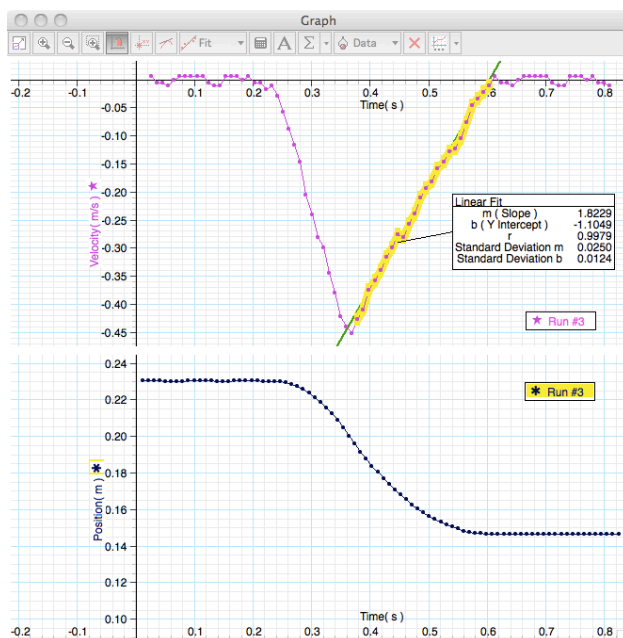

Figure 2: Example data.
3. It may take a few tries to get a good set of data. An example of a good run of data is shown below in Figure 2. Try to keep your data as close to this as possible, avoiding jagged spikes in the linear portion of the data.
4. After a good run of data is obtained, perform a linear fit on the portion of the data where the block is slowing down, as shown in Figure 2. Make sure not to select the peak or any of the flat portions of the data.